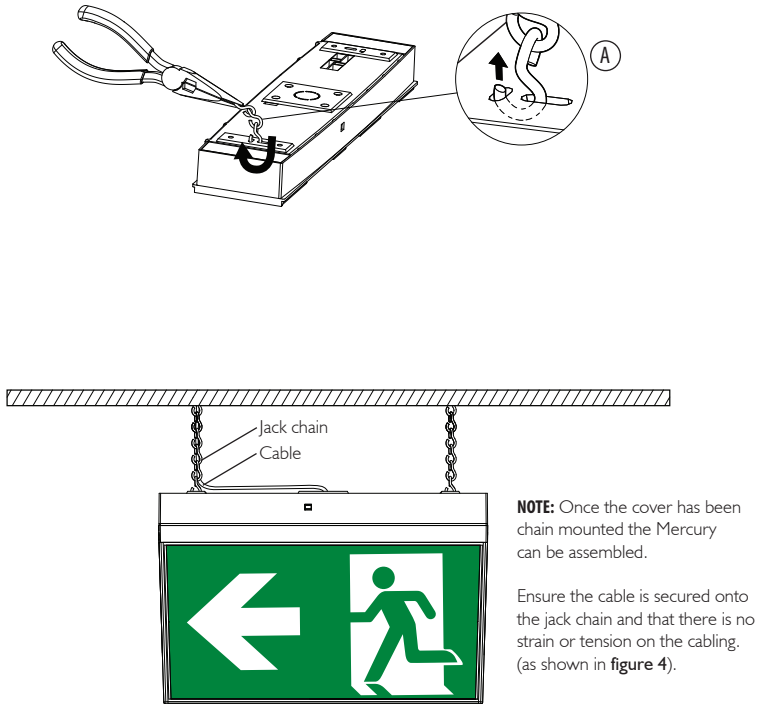

Figure 4: Jack chain installation
3. Using pliers clamp the jack chain and thread through the Mercury as shown in **figure 4** (A).